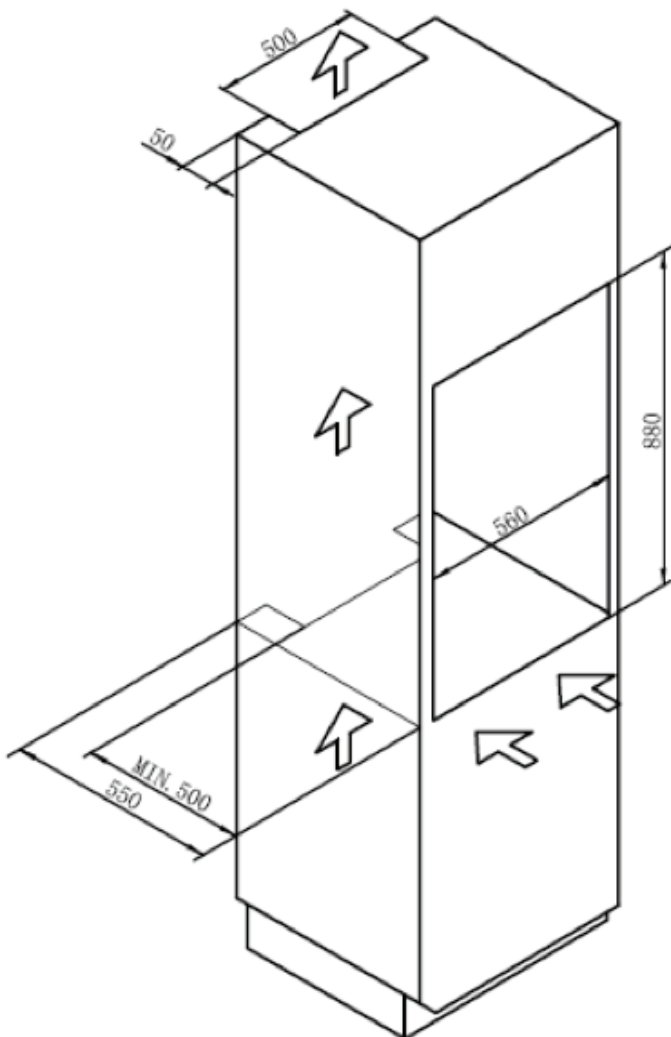

Fig. 2
- The ventilation for the oven should be in accordance to the dimensions shown in Fig. 2 & 3
- The rear panel of the cabinet must have a gap cut of at least 50mm at the rear as shown in Fig. 2 & 3 to ensure adequate ventilation.